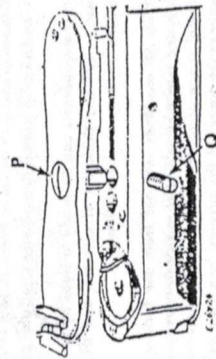

Fig. 33. Correct Position of Hinge Pin in Needle Plate
2. Loosen screw Q, Fig. 33 and, by lifting upward, remove needle plate and hinge pin P.